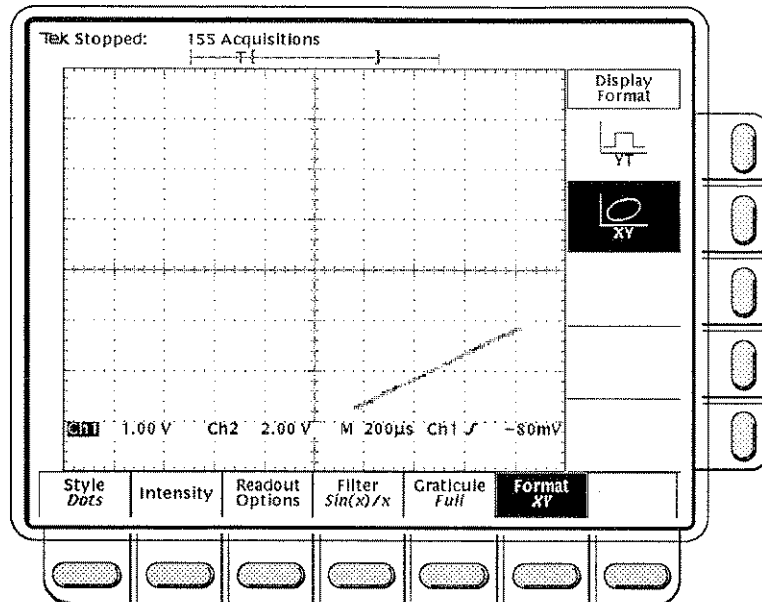

Figure 3-14: Display Menu — Format Selected
- Step 1:** You can set the display axis format with the main menu **Format** item (Figure 3-14).